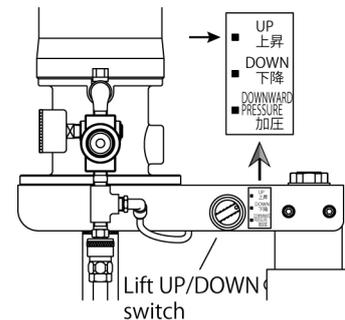

Fig.16
- 3) When you switch the control of the lift up/down switch to "UP", the pump moves upwards, when the pail set on the machine moves upwards at the same time. Pry the pail away from the machine. (Fig.16)